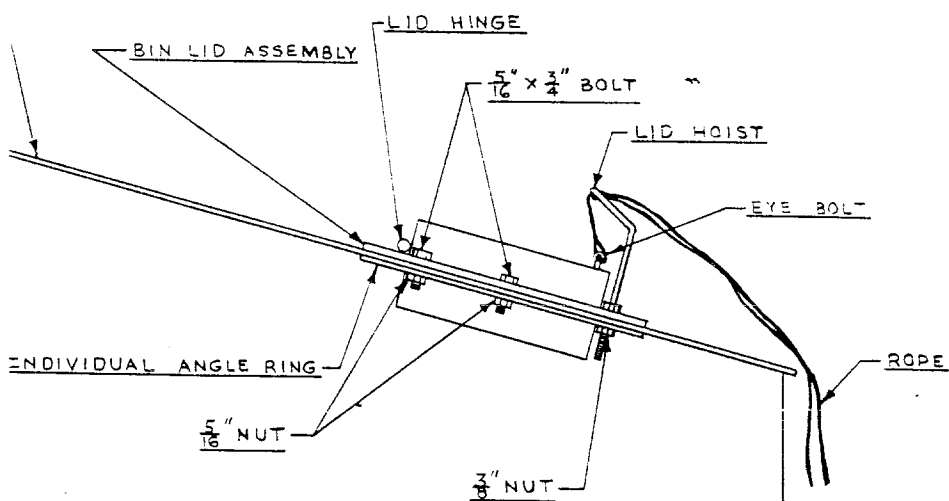

FIGURE 3
3. Place individual angle ring on inside of bin roof sheet. Locate lid assembly on outside of bin roof sheet with lid hinge pointed to roof peak. (See Figure 3). Secure lid assembly and individual angle ring to roof sheet using four 5/16" x 3/4" bolts with attached neoprene washers, 5/16" flat washer and 5/16" hex nut. Force small amount of caulking compound between lid assembly and roof sheet.
5. Screw one 3/8" hex nut up on each side of lid hoist. Slip 3/8" neoprene washers up against nuts. Now slip lid hoist into remaining two holes in angle ring and roof sheet. (See Figure 3). Position 3/8" neoprene washer and 3/8" nut on each side of lid hoist and tighter.